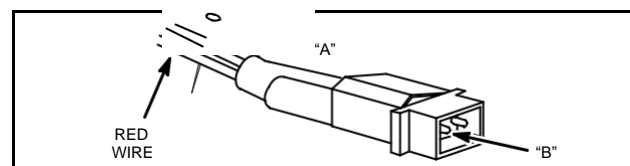

Fig. 758 – TESTING DIODE
5. Attach RED test lead clip to point "A" and Black test lead clip to point "B," Fig. 758. (It may be necessary to pierce wire with a pin as shown.)